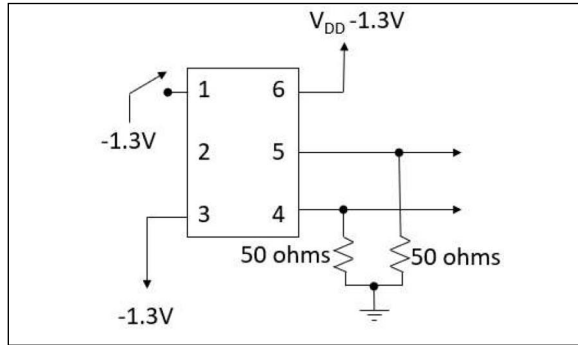
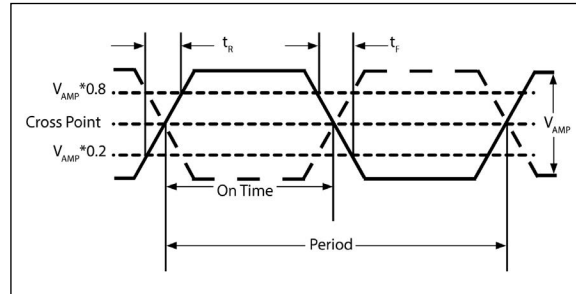
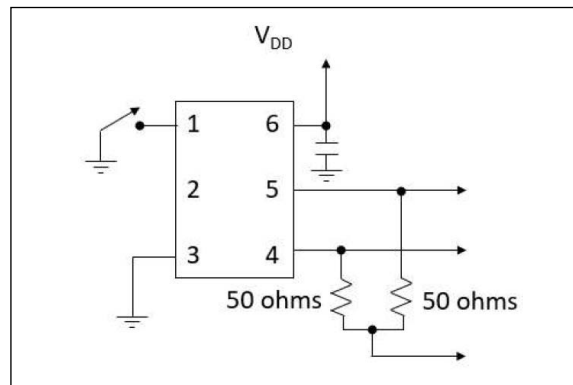

FIGURE 1-1: LVPECL Test Circuit.
FIGURE 1-2: LVPECL Output Rise/Fall Time.
FIGURE 1-3: LVDS Test Circuit.
- 3:** Figure 1-1 defines the test circuit and Figure 1-2 defines these parameters.
- Note 3:** Figure 1-1 defines the test circuit and Figure 1-2 defines these parameters.
- Note 3:** Figure 1-3 defines the test circuit and Figure 1-2 defines these parameters.
3: Figure 1-3 defines the test circuit and Figure 1-2 defines these parameters.